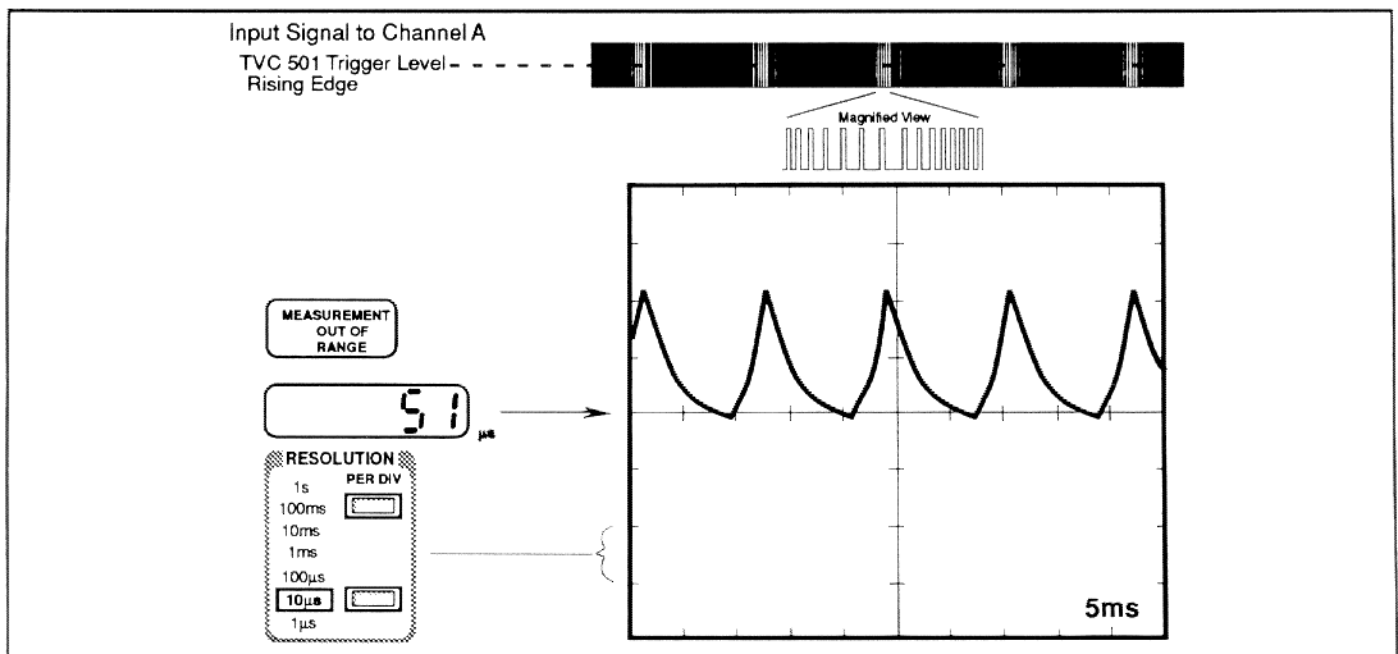

Figure 4-14. Preparing to Zoom in on a Signal. Position the TVC 501 Output by using the OFFSET control to put the area of interest at center screen.
10. Change the TVC 501 offset so that the minimum level of the period-vs-time waveform is at center screen (see Figure 4-14). The offset value should be about 51 μ s.